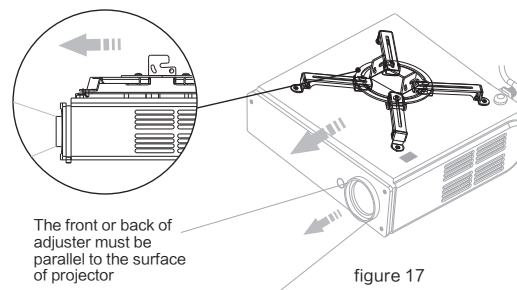

figure 17
5. The front or back of adjuster must be parallel to the surface of projector as figure 17.